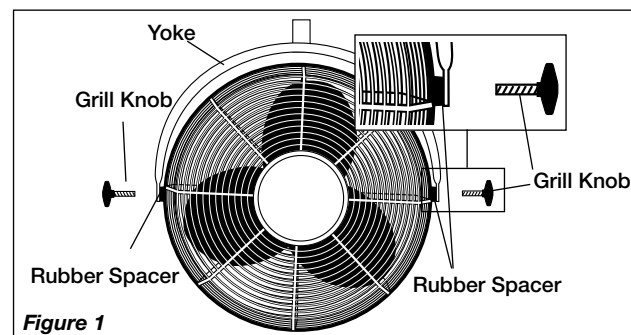

Figure 1
- Lay Fan Head on flat surface, so the front side is facing down. Loosely attach one Grill Knob and one Rubber Spacer to the Head Assembly. Attach the other Grill Knob and Rubber Spacer to the Head Assembly and FIRMLY tighten. Return to the first Grill Knob and FIRMLY tighten. (Figure 1)